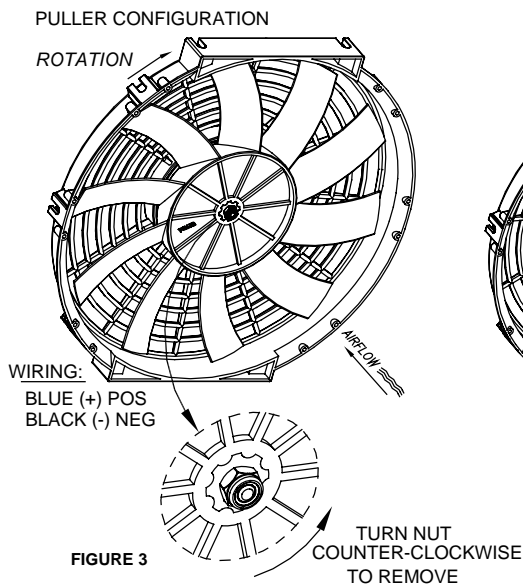

FIGURE 3
1. Disconnect power to the fan. Remove locknut by turning Counter Clockwise as shown. Figure 3